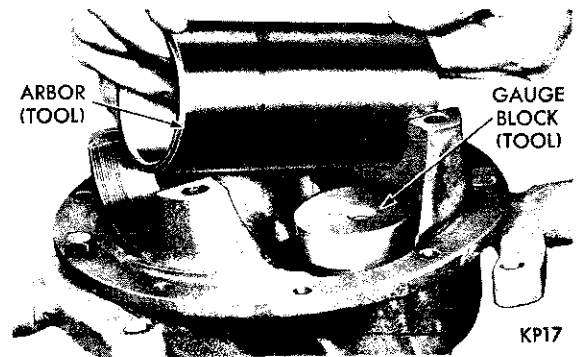

Fig. 28—Installing Arbor in Carrier
(2) Position arbor SP-561 (part of Tool C-758) in the differential bearing pedestals of the carrier (Fig. 28). Center the arbor so that an approximate equal distance is maintained at both ends. Position the differential bearing caps and attaching bolts on the carrier pedestals. Insert a piece of .002 inch feeler stock between the arbor and each cap, and tighten the cap bolts securely.